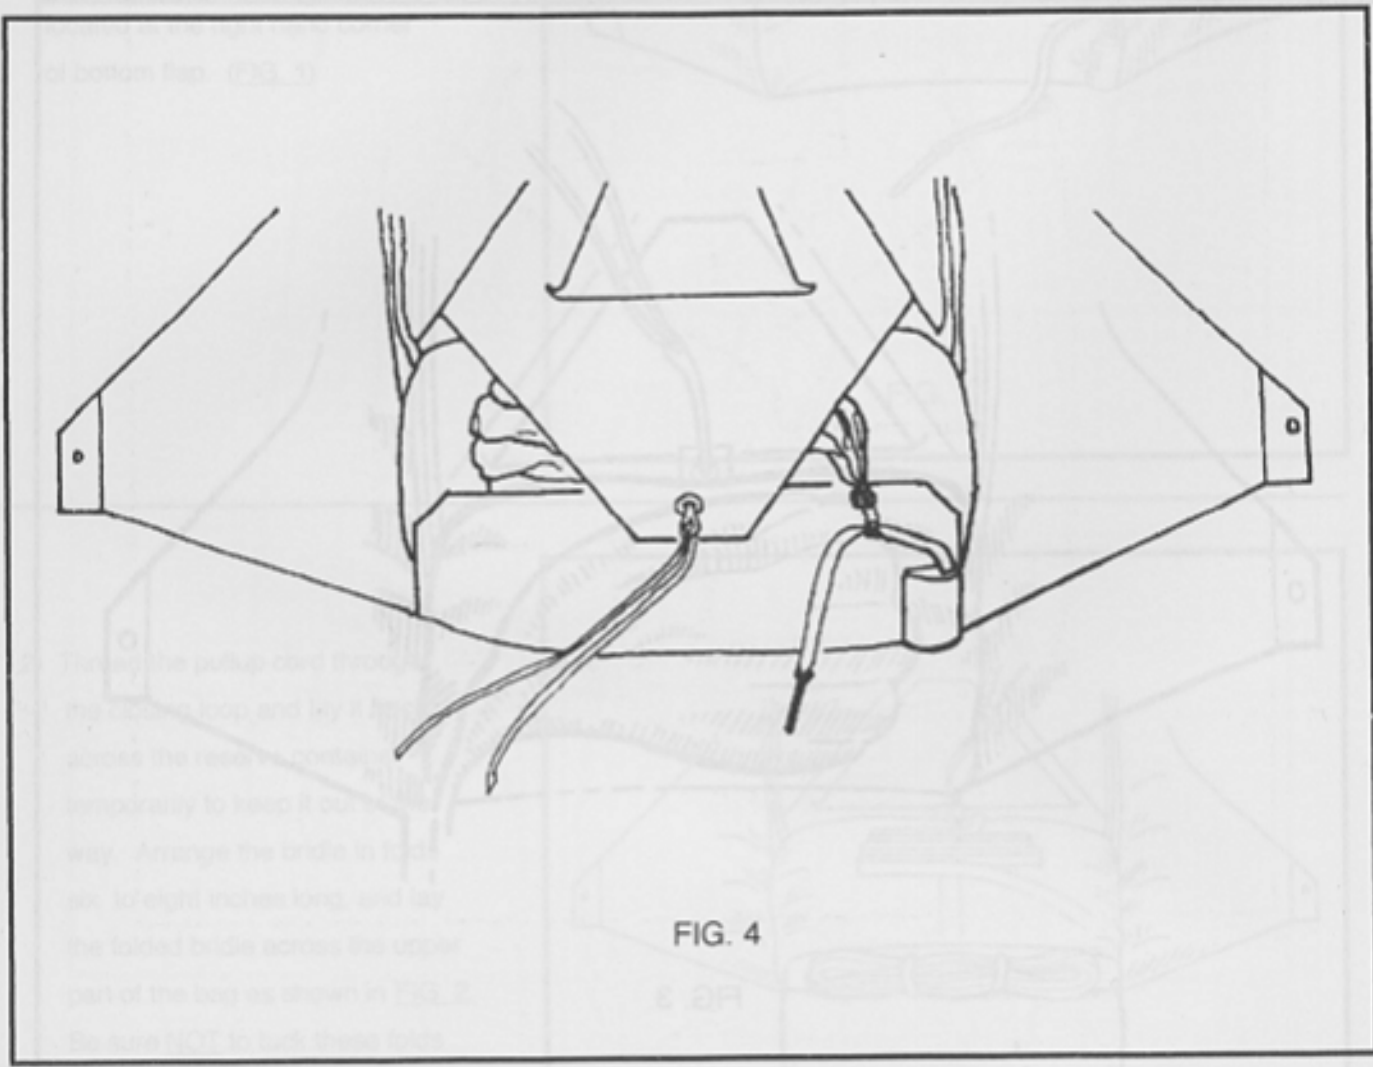

FIG. 4
- 4) Close the bottom flap, then the top flap, securing the closing loop with the pin. As shown in (FIG. 4).